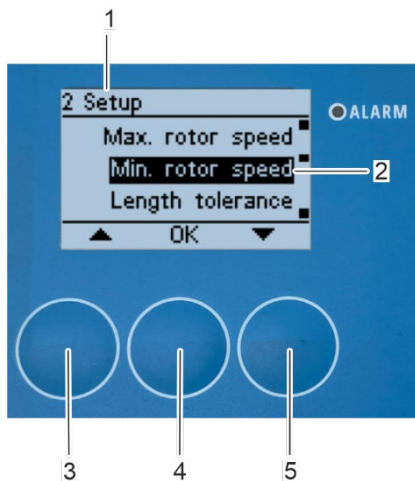

Fig. 131: Open submenu "minimum rotor speed"
⇒ The "2 Setup" submenu appears on the display again (Fig. 131/1).
1. Select the "Min. rotor speed" submenu (Fig. 131/2) with the arrow keys [up] (Fig. 131/3) and [down] (Fig. 131/5) in "2 Setup" submenu (Fig. 131/1).
2. Confirm the selection with [OK] (Fig. 131/4).